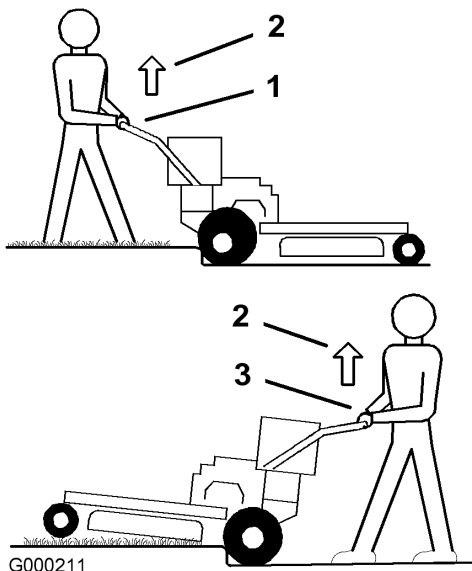

Figure 10
3. Drive machine until the castor wheels contact curb (Figure 10).
4. Lift the front of the machine by pushing down on the lower handle (Figure 10).
5. Drive the machine until drive wheels contact the curb (Figure 10).
6. Lower the front of the machine (Figure 10).
7. At the same time engage the lower control bar and lift up on the lower handle to drive over the curb (Figure 9 and Figure 10).
3. Drive the machine until drive wheels contact curb (Figure 10).